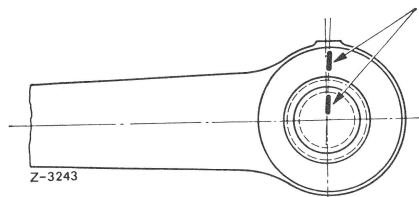

Fig. 4
**12** Attach pitman arm, if previously removed, to pitman shaft, watching out for marks. Renew self-locking hex. nut. Tightening torque, 160 – 200 Nm (16–20 kpm) (Fig. 4 and 46.1–510).